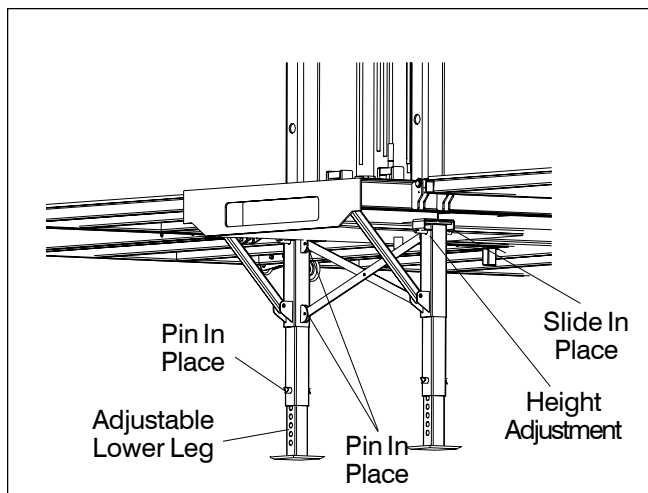

Figure 5.6— Front Column Supports
9. Remove the adjustable corner supports from the tool box and position one support under each column. Fasten in place with the provided pins (refer to Figure 5.6).